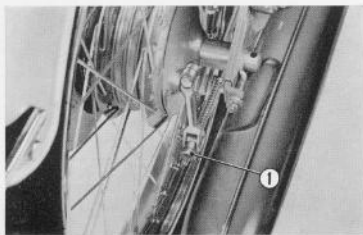

Fig. 5.32 Adjusting rear brake
- b. Adjustment is made by the adjuster nut. ① (Fig. 5.32)